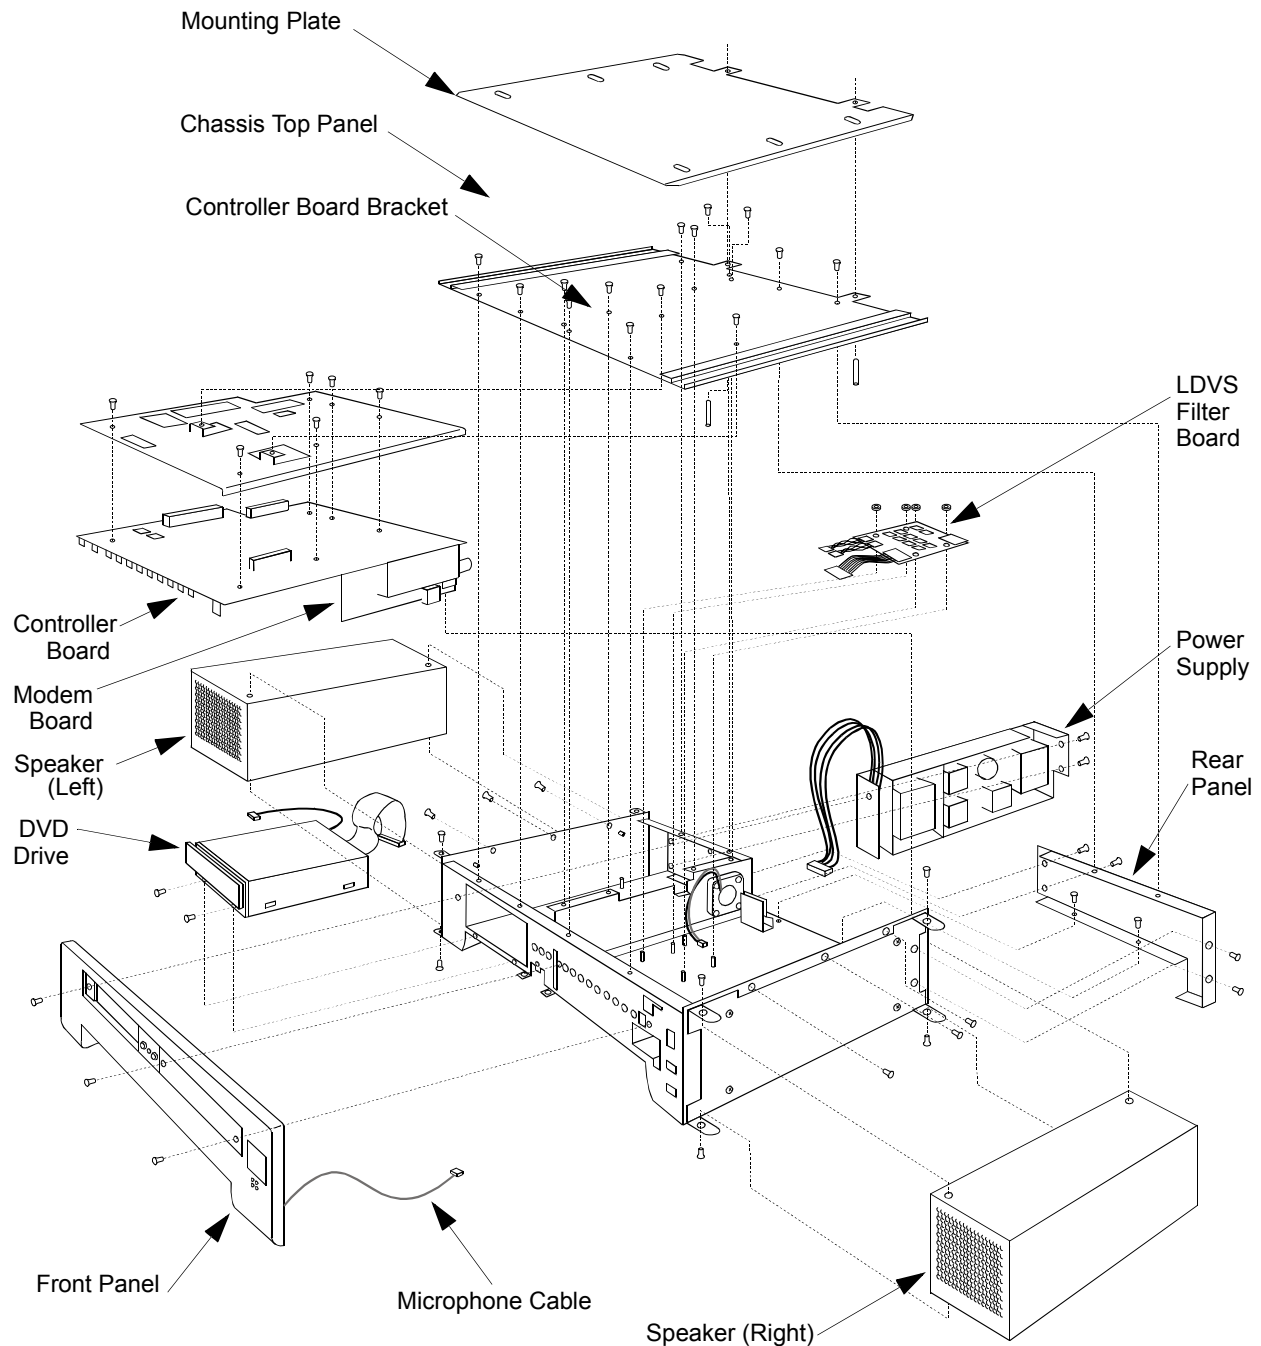

Figure 4-5 Main Chassis, Exploded View
- Refer to Figure 4-5 for an exploded view of the main chassis assembly.
4.2.1.(A) REMOVING THE TOP COVER